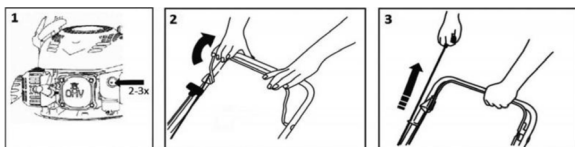

Fig.6
If the engine has not been warmed up, press the starter cord 2-3 times (Fig. 6 - item 1).
Pull the start/brake lever toward the handle and hold it in this position (Fig. 6 - item 2), then pull the starter handle (Fig. 6 - item 3). The engine should start after 3-4 pulls.